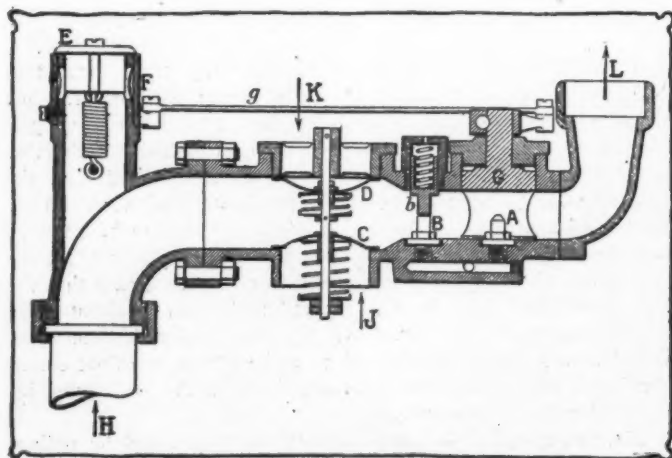

Fig. 2—The *Décupli* compressed-air motor booster
of the vehicle, and the air is piped to the carbureter. This part presents no features of unusual interest, though the use of the same pump for the inflation of tires and the starting of the motor (by adding an air tank) is suggested. A section through the carbureter portion of the *Décupli* is shown in Fig. 2, and the float chamber may be imagined as located adjacently to the space between the two nozzles A and B. In this illustration G is the throttle which is connected by rod *g* with the air valve F in such manner that when G is closed F is open and supplies the air for running slowly and for starting, but when the compressed air mechanism is in action F affords an exit for the surplus air which enters at H, this arrangement admitting of operating the throttle even without first disengaging the booster device. L is the induction pipe joint, and A the nozzle for normal operation. B is the nozzle for operation with the booster in action; it is held closed by means of piston *b* until the air pressure becomes sufficient to raise this piston against the resistance of the spring which holds it against the nozzle. C is a valve letting air in at J unless it is held closed by a higher interior pressure. D is a similar valve fitted with a stronger spring and admitting additional air at K when the motor is running at high speed, but is also inoperative when the booster device is at work. E is a safety valve limiting the air pressure to the maximum desired.
**CARBURETER in New 10-HP. Panhard.**—The resemblance of the carbureter in the new small Panhard cars with poppet valve motor to the Zenith carbureter is only superficial. When the throttle, R in the accompanying illustration, Fig. 2, is closed or approximately closed the groove Y in the wall of the throttle chamber is laid open and allows the suction from the motor to act upon the secondary jet MJ instead of the main jet G, but there is established a play of interaction between these two jets which is not found in other carbureters. When the throttle is opened a little and the suction begins to act on the main jet G the gasoline feed to the secondary jet is thereby cut down, and when the opening up of the throttle con-